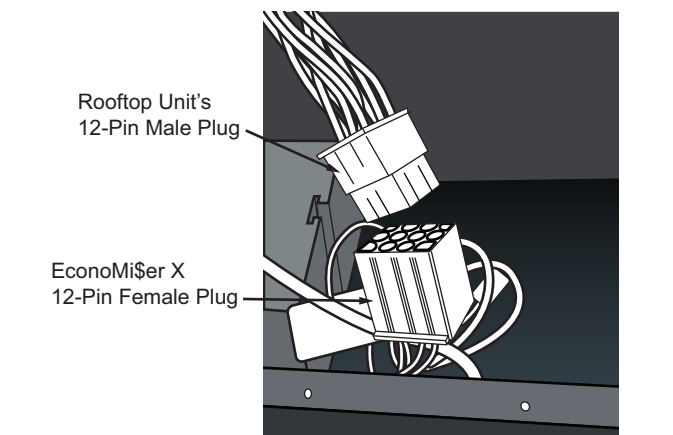

Fig. 5 — Connect EconoMiSer X Harness to Unit PL6 Economizer Harness
8. Remove and save the 12-pin jumper plug from the unit economizer harness located in the upper left corner of the unit. Insert the EconoMiSer X plug into the unit wiring harness. (See Fig. 5.)